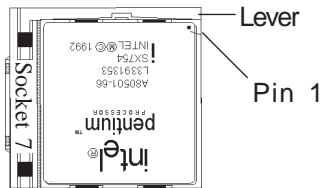

Figure 2-3 Inserting a CPU into Socket 7
2. Pull up the lever of Socket 7 so that it is perpendicular with the surface of the mainboard. Gently insert the CPU with Pin 1 at the same corner of Socket 7 that contains the end of the lever. Allow the the weight of the CPU to push itself into place. Do not apply extra pressure as doing so may result in damaging your CPU. Snap the lever back into place. See Figure 2-3.